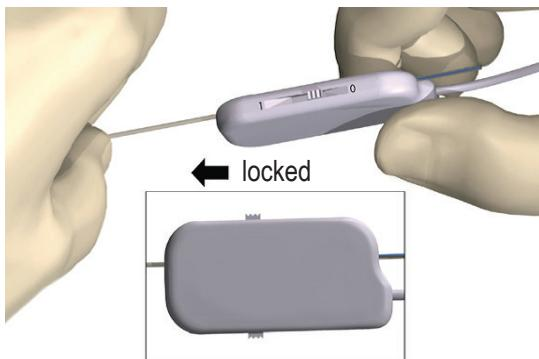

Figure 10: Securing the DBS Lead into the 1x8 OR Cable Connector
7. Push the end of the DBS Lead into the port until it stops. Hold the DBS Lead in place while sliding the locking lever to the locked (1) position (Figure 10).